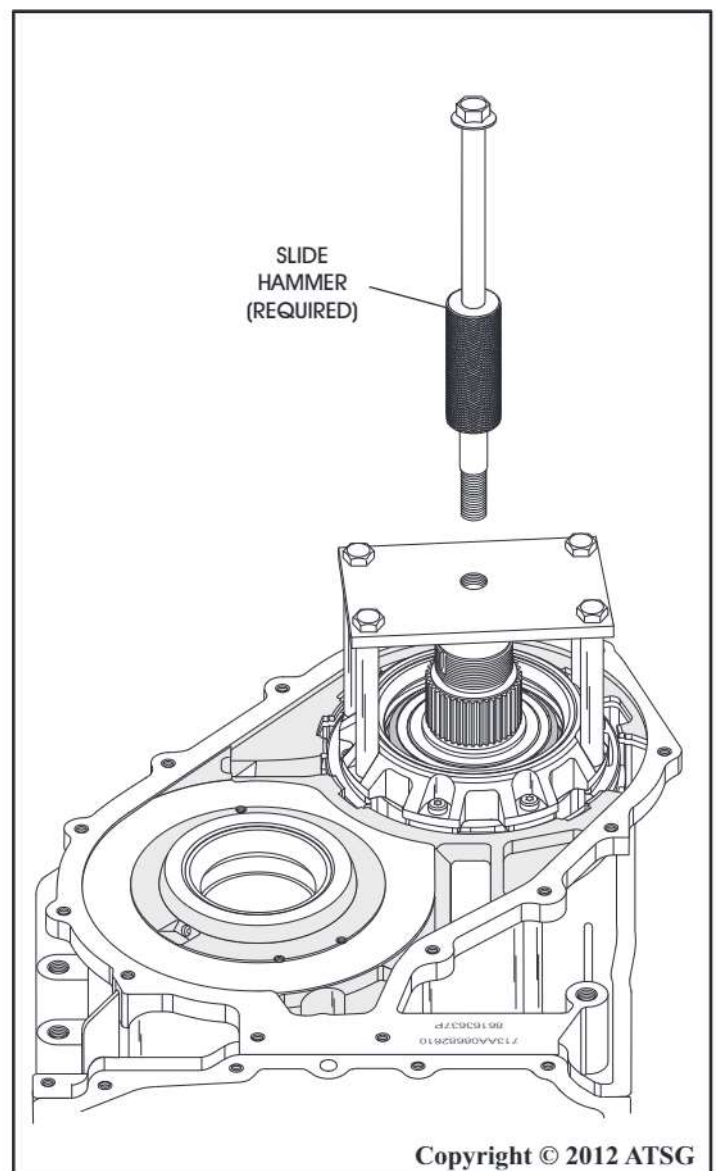

Figure 84
82. Attach a slide hammer to adapter/puller 9908, as shown in Figure 84.